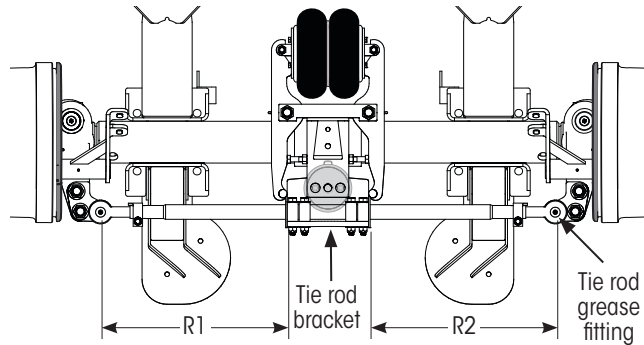

Figure 5: Tie rod bracket center measurement check
2. Referring to Figure 5, **Measure** and record dimensions R1 & R2. Ensure $R1 = R2 \pm .09$ inches (± 2.3 mm). If not, reference installation drawing¹ D-36237 to re-center tie rod bracket and washers on the tie rod.